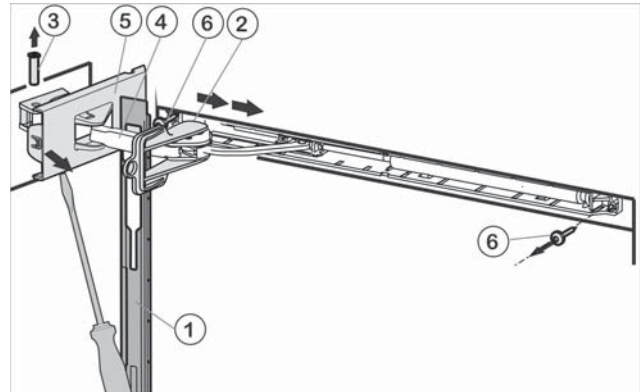

Fig. 55
- Push panel forward over the damper bracket Fig. 55 (4) in the direction of the appliance.
- Engage locking device Fig. 55 (2) into place inside oblong hole.
- Unscrew cover that is on the hinge side Fig. 55 (5) until the first notch using a screwdriver.
- Push bolt Fig. 55 (3) out from below.
- Press damper bracket Fig. 55 (4) in the direction of the door.
- Completely loosen cover that is on the hinge side Fig. 55 (5) and remove.
- Remove panel Fig. 55 (1).
- Unscrew soft stop unit (2 x Torx 15) Fig. 55 (6).